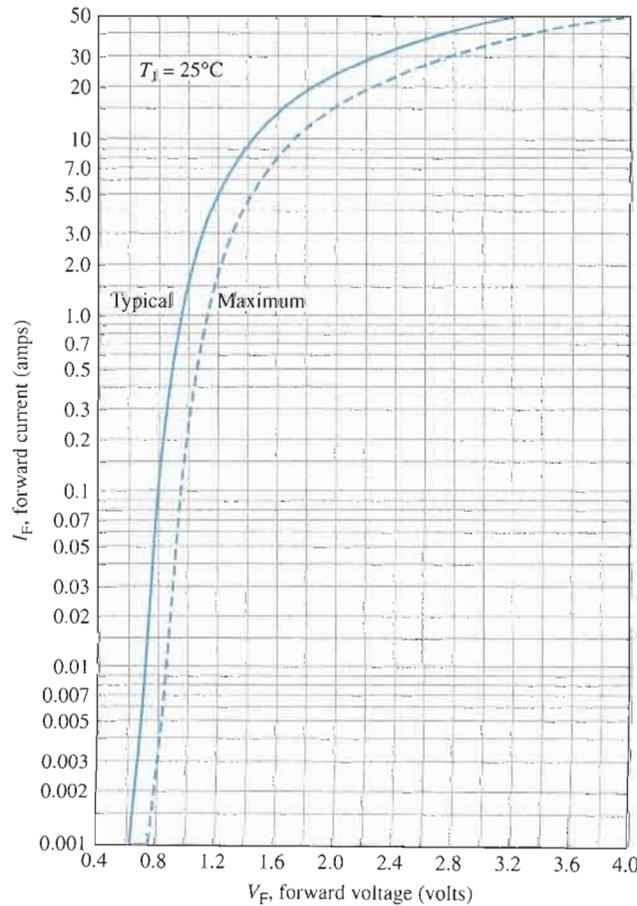

FIGURE 2-54
- $v_F$  The instantaneous voltage across the forward-biased diode when the forward current is 1 A at  $25^\circ\text{C}$ . Figure 2-54 shows how the forward voltages vary with forward current.